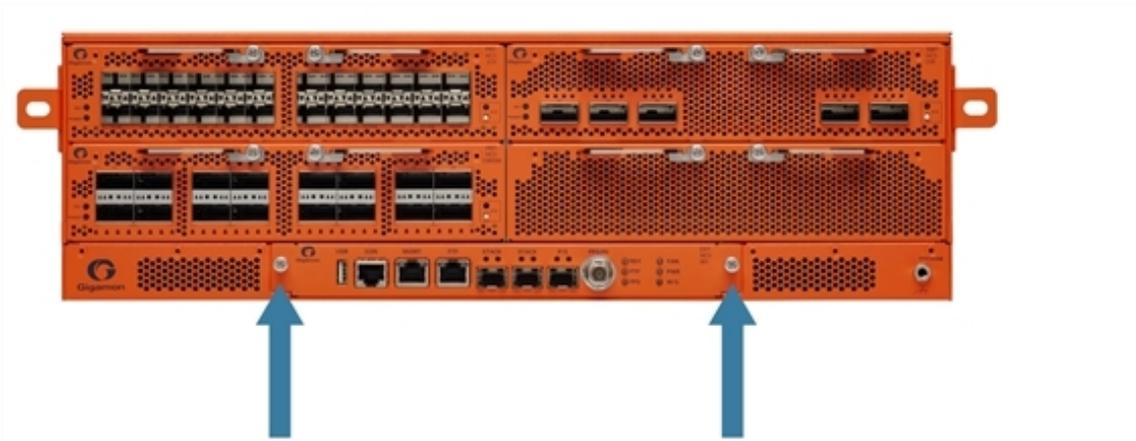

Figure 15: Extension Board Screw Location on GigaVUE-HC3 Front
2. Locate the two thumb screws on the extension board as shown in Figure 15: Extension Board Screw Location on GigaVUE-HC3 Front.